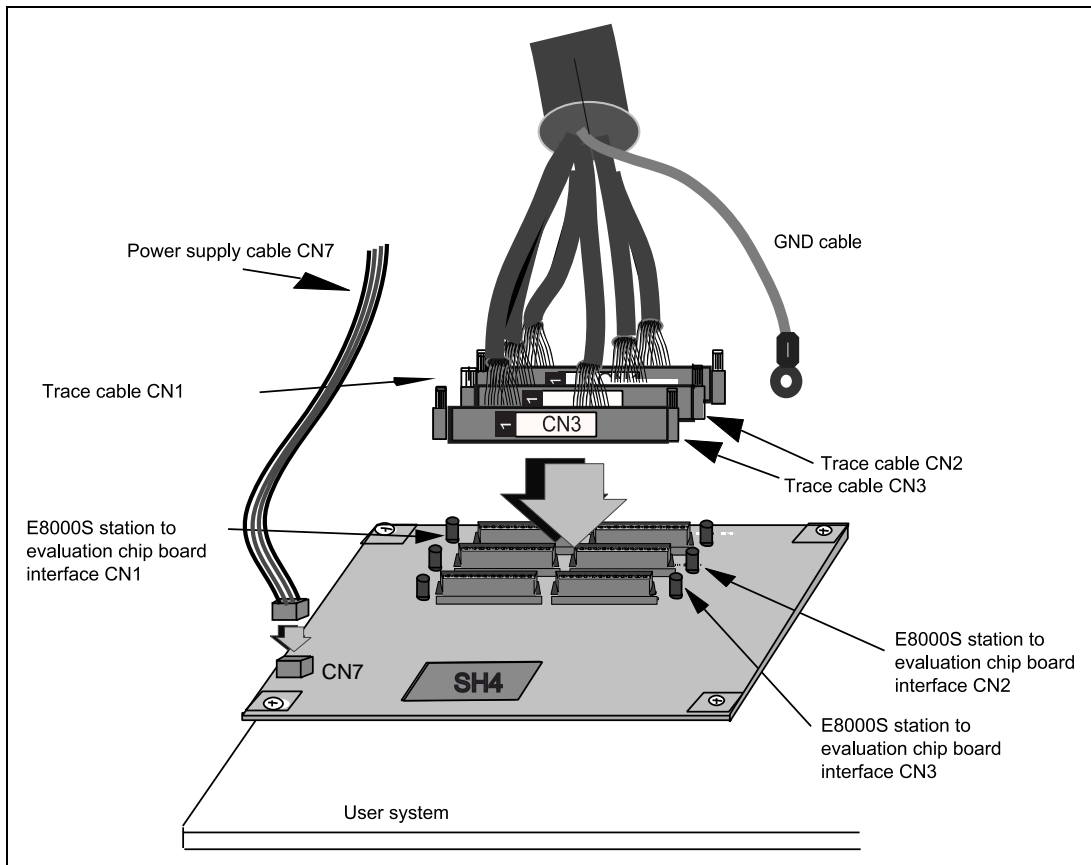

Figure 3.5 Connecting Trace Cables to the Evaluation Chip Board
4. Connect the trace cables to the station to evaluation chip board interface connectors CN1, CN2, and CN3 on the evaluation chip board. Confirm that each trace cable connected to a connector on the E8000S station is also connected to its corresponding station to evaluation chip board interface connector on the evaluation chip board. Connect the cables using the same method as in step 3. Figure 3.5 shows how to connect the trace cables to the evaluation chip board interface connectors.